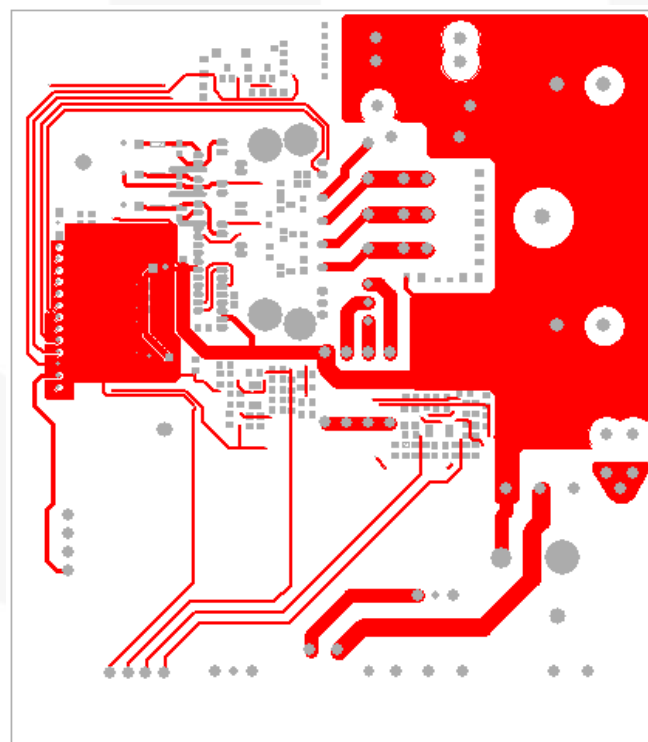

Figure 16. Bottom Layer
One shunt resistor is used for sensing short-circuit (SC) current. The related circuit is composed of an external shunt resistor, op amp, RC low-pass filter, fault indicator circuit, and fault output pin. Refer to reference design RD-344 for a more detailed explanation of the SCP circuit shown in Figure 16. In this example, the ideal shunt resistor value is 8 mΩ. The default shunt resistor used on this board is a 10 mΩ. The actual shunt resistor value used is typically a balance between component count (if op amp is required due to small resistor value) and shunt-resistor losses.
- *Refer to Figure 16*